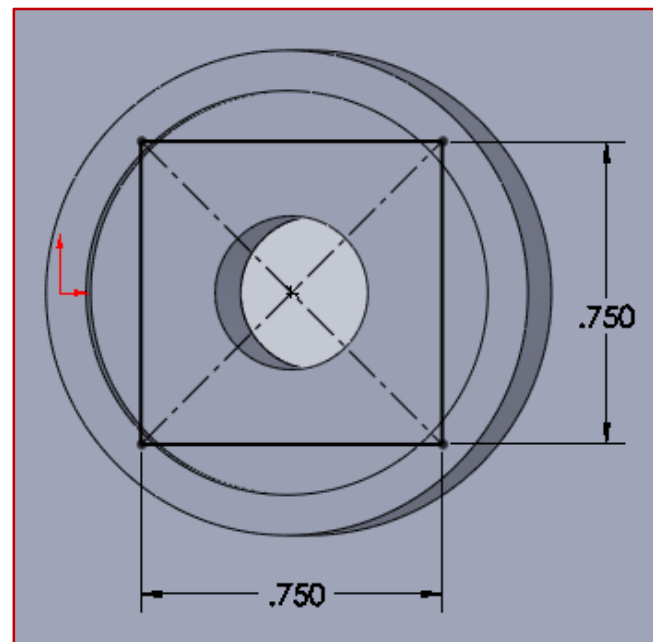

Figure 8.8 – Rectangle Sketch for Bottom Pocket
Step 66: Select the surface of the pocket again and sketch the square shown in Figure 8.8. The sides of the square are 0.75 inch and it is centered on the origin.